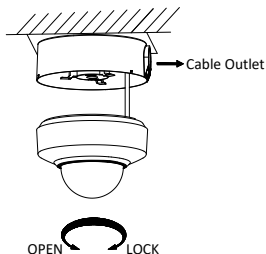

Figure 2-46 Fix the Camera
6. Fix the screws on the side with a screwdriver, as shown in Figure 2-46.